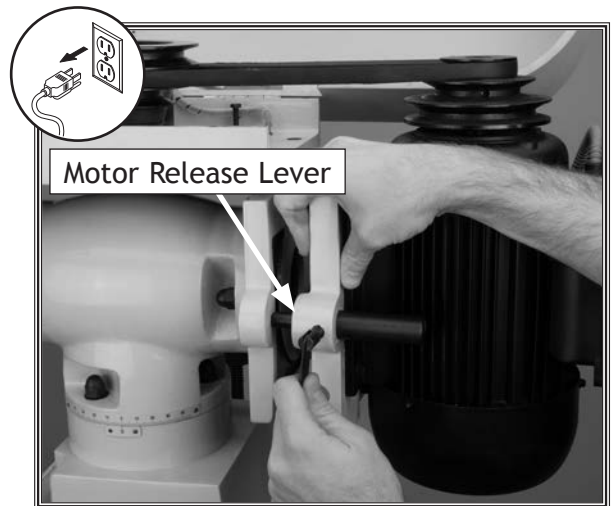

Figure 25. Applying tension to V-belts.
6. Tension the V-belts by pulling the motor back and locking the motor release lever (see **Figure 25**).